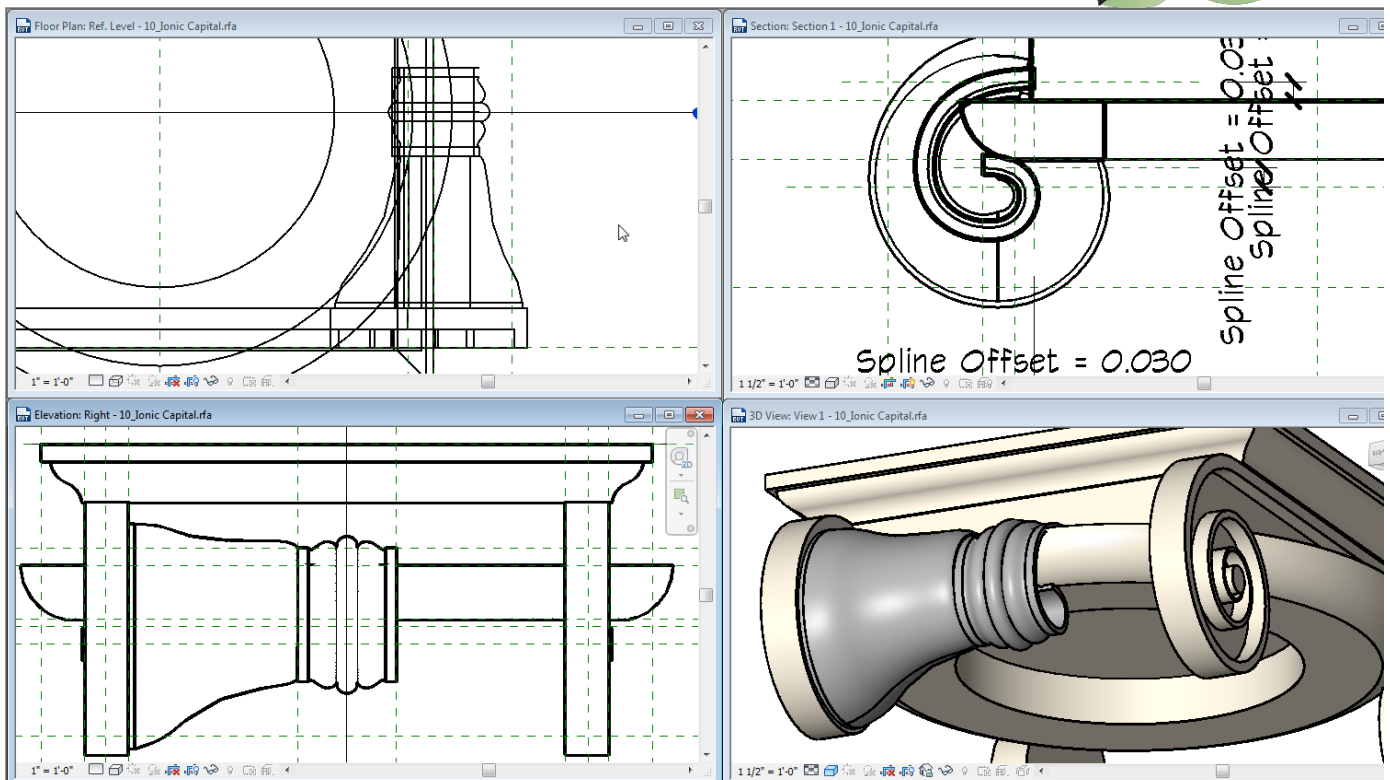

FIGURE 29—ADD THE COLLAR SWEEP
- ⇒ On the Options Bar, for the Angle, type: **-90** (negative) and then click Finish Edit Mode (see Figure 29).